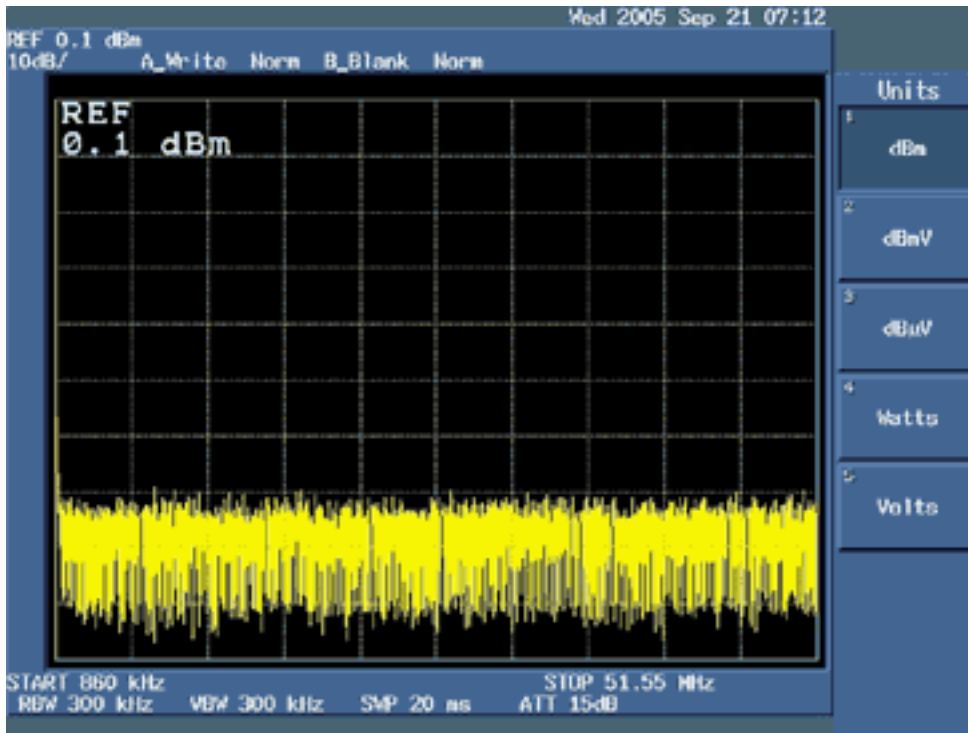

Figure 5. Selecting dBm as the desired display units.
- Press soft key #5 (**Units**) and select soft key #1 (**dBm**) as the desired display units, as shown in **Figure 5** and then press the **RETURN** key.